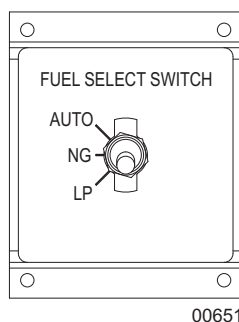

Figure 9 - Fuel Select Switch
2. Remove the three screws securing the left control panel door. A fuel select switch is located behind the door. Refer to Figure 9 on page 21.